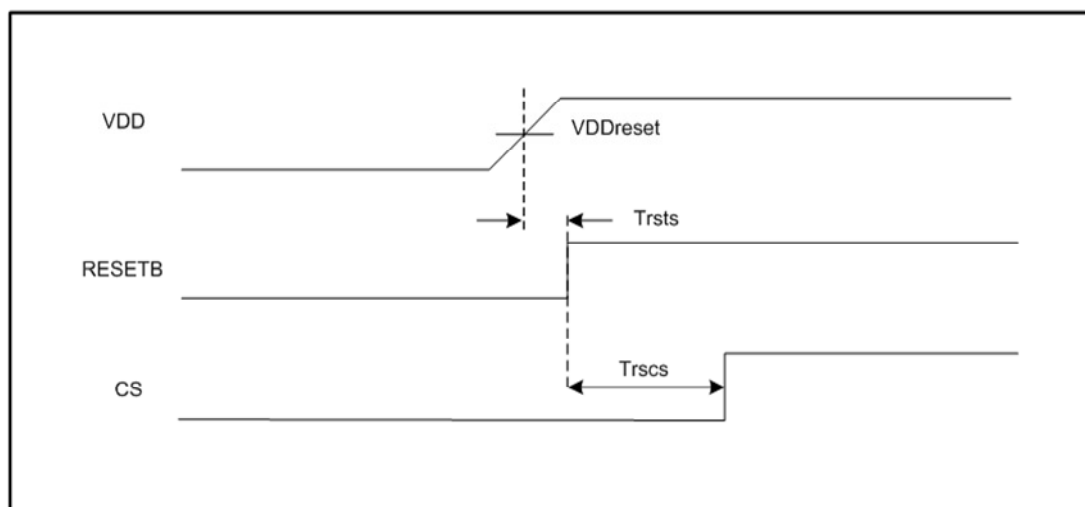

Figure 6. Reset Timing
**1.1** Power supply should come up first. The RESETB must remain low until the power is turned on as shown in Figure 6.